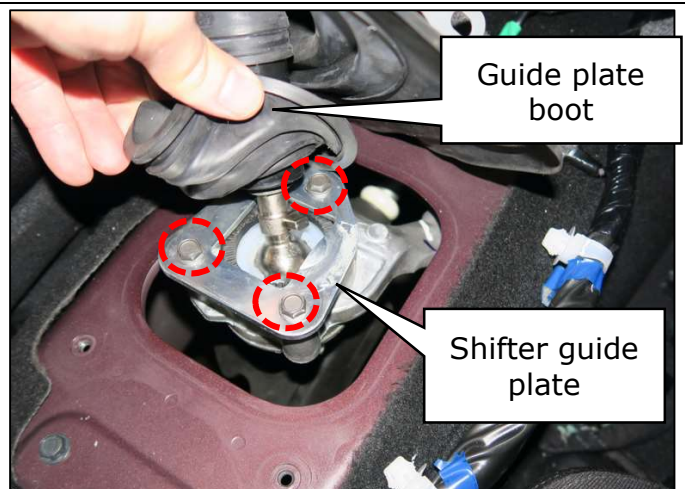

Figure 24
- Loosen the (3) shifter guide plate bolts approximately 2 turns or until the shifter guide plate can move (Figure 24)